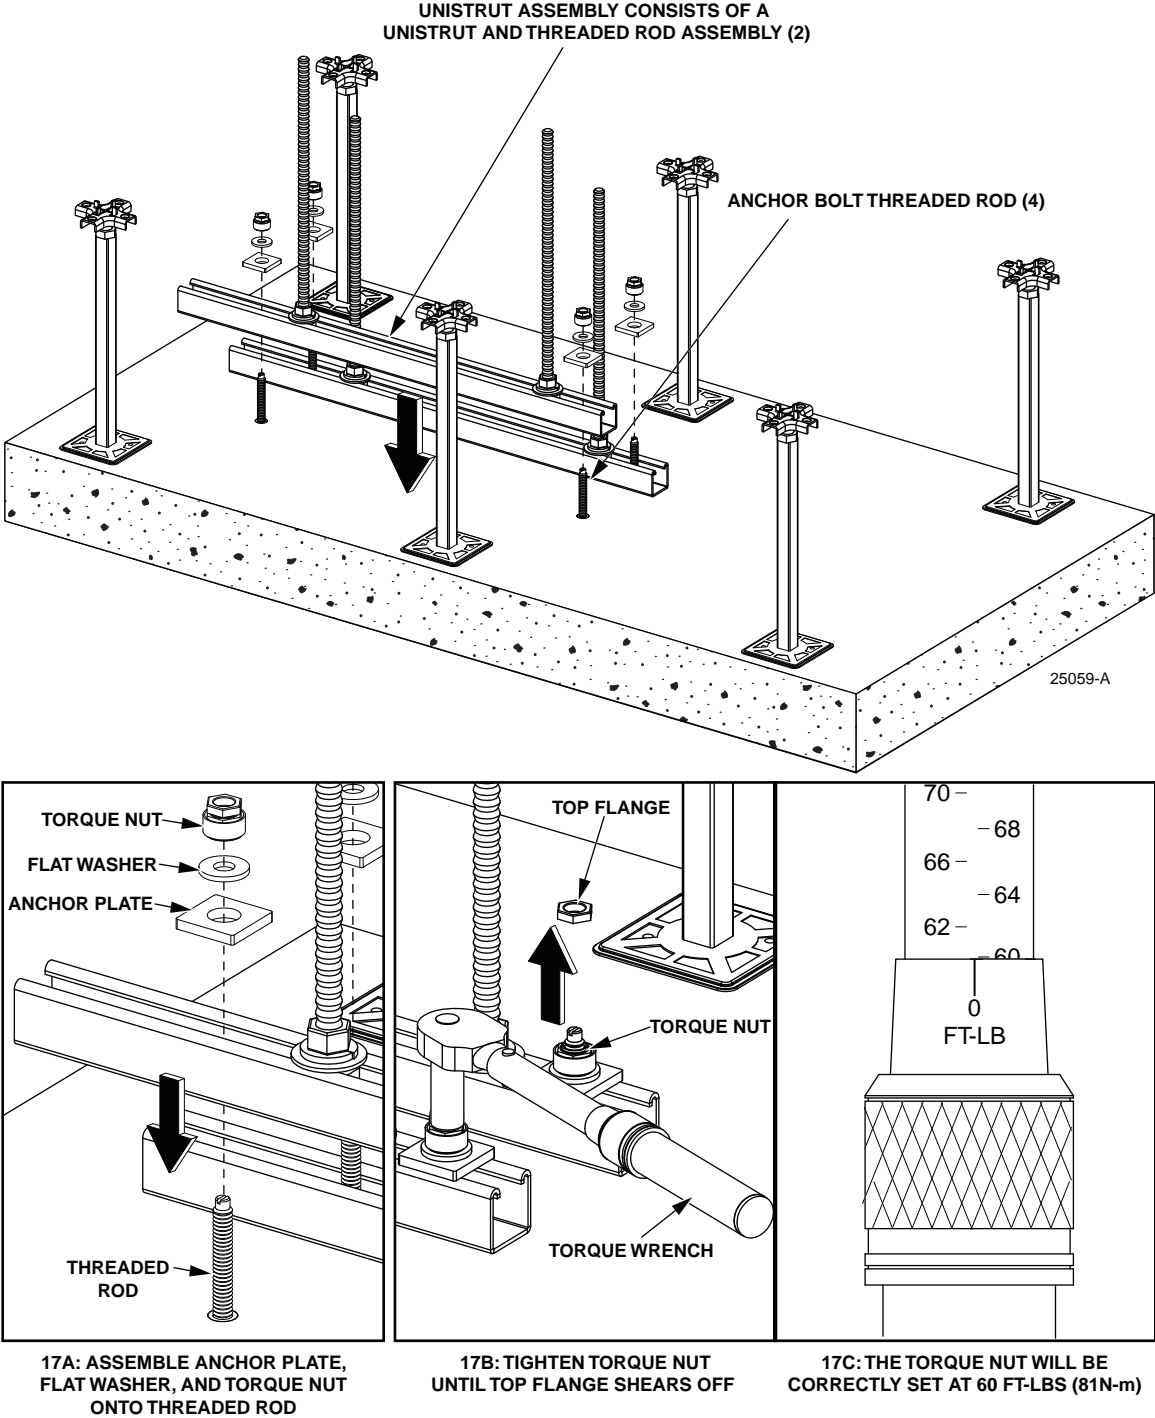

Figure 17. Positioning Unistrut Assemblies
- 16. Position the unistrut assemblies over the anchor bolt threaded rods. Assemble the anchor plate, flat washer, and torque nut onto the threaded rod (17A). Tighten torque nut until top flange shears off (four places) (17B). The torque nut will be correctly set at 60 ft-lbs (81 Newton meters) (17C). Refer to Figure 17.